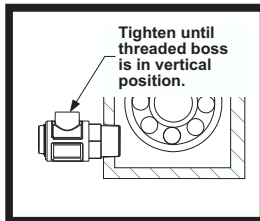

Fig. 2
6. Tighten Watchdog using an open end wrench until internal threaded boss is vertical (Fig. 2). When tightening plastic main body, tighten one turn from bottoming the hex against housing wall.